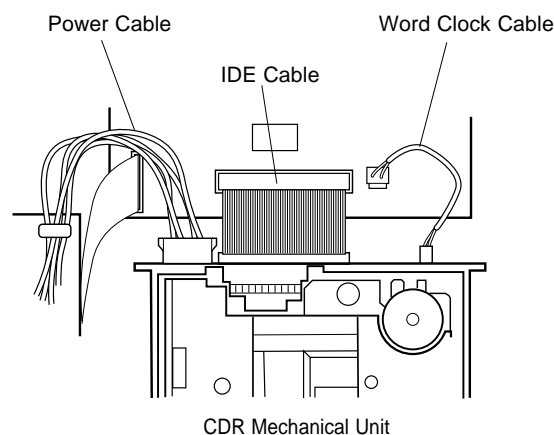

Fig. 2
c. Disconnect the power cable / IDE cable / word clock cable from the CDR mechanical unit. (Fig. 2)